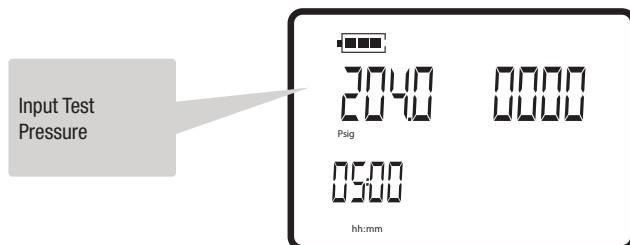
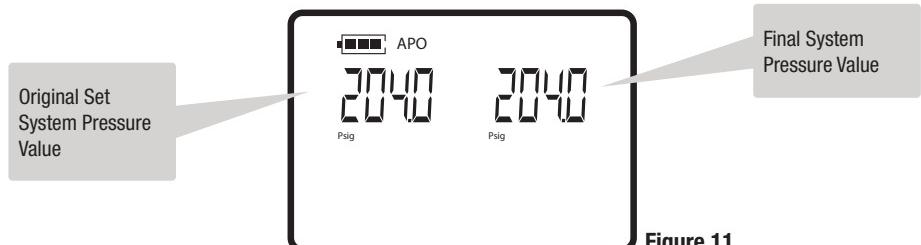

Figure 10
Figure 11
- 4) Press **SET** to store **Test Duration**. Display will advance to **Pressure Set Screen** (FIG 10).
- 7) Press **SET** to start test. Starting test pressure is indicated in upper left display (FIG. 10). Current system pressure is shown in upper right display. Timer (lower left display) decrements and when at zero, a bell will sound indicating test completion and **Start Vs. Final Pressures** will be displayed (FIG 11) to determine if system leaks.